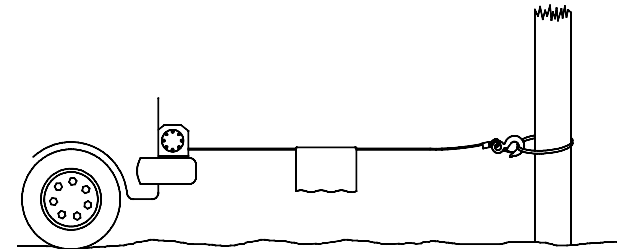

Fig. 6
2. When pulling a load, place a blanket, jacket or tarpaulin over the wire rope near the hook end (see Fig. 6). This will slow the snap back of a broken wire rope and help to prevent serious injury. Raise hood to protect windshield.